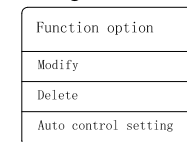
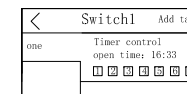

Fig.4
Fig.5
- a. Press and hold the switch ID to access a pop-up box as shown in Fig.4. Set up auto control setting, and check the pre-set automatic control conditions as shown in Fig. 5.